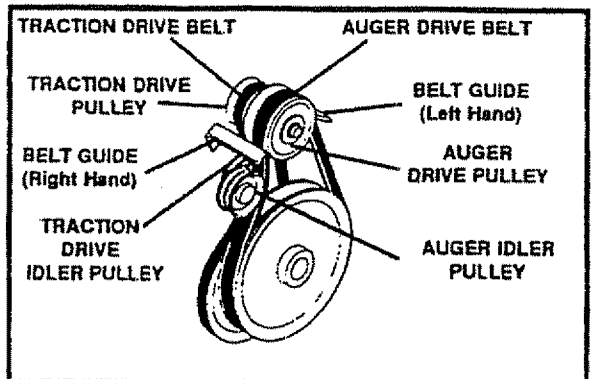

FIG. 25
### TRACTION DRIVE BELT (See Fig. 25)
### AUGER DRIVE BELT (See Fig. 25)
- Loosen the nut on the idler pulley (See Fig. 25) and move the pulley toward the belt about 1/8".